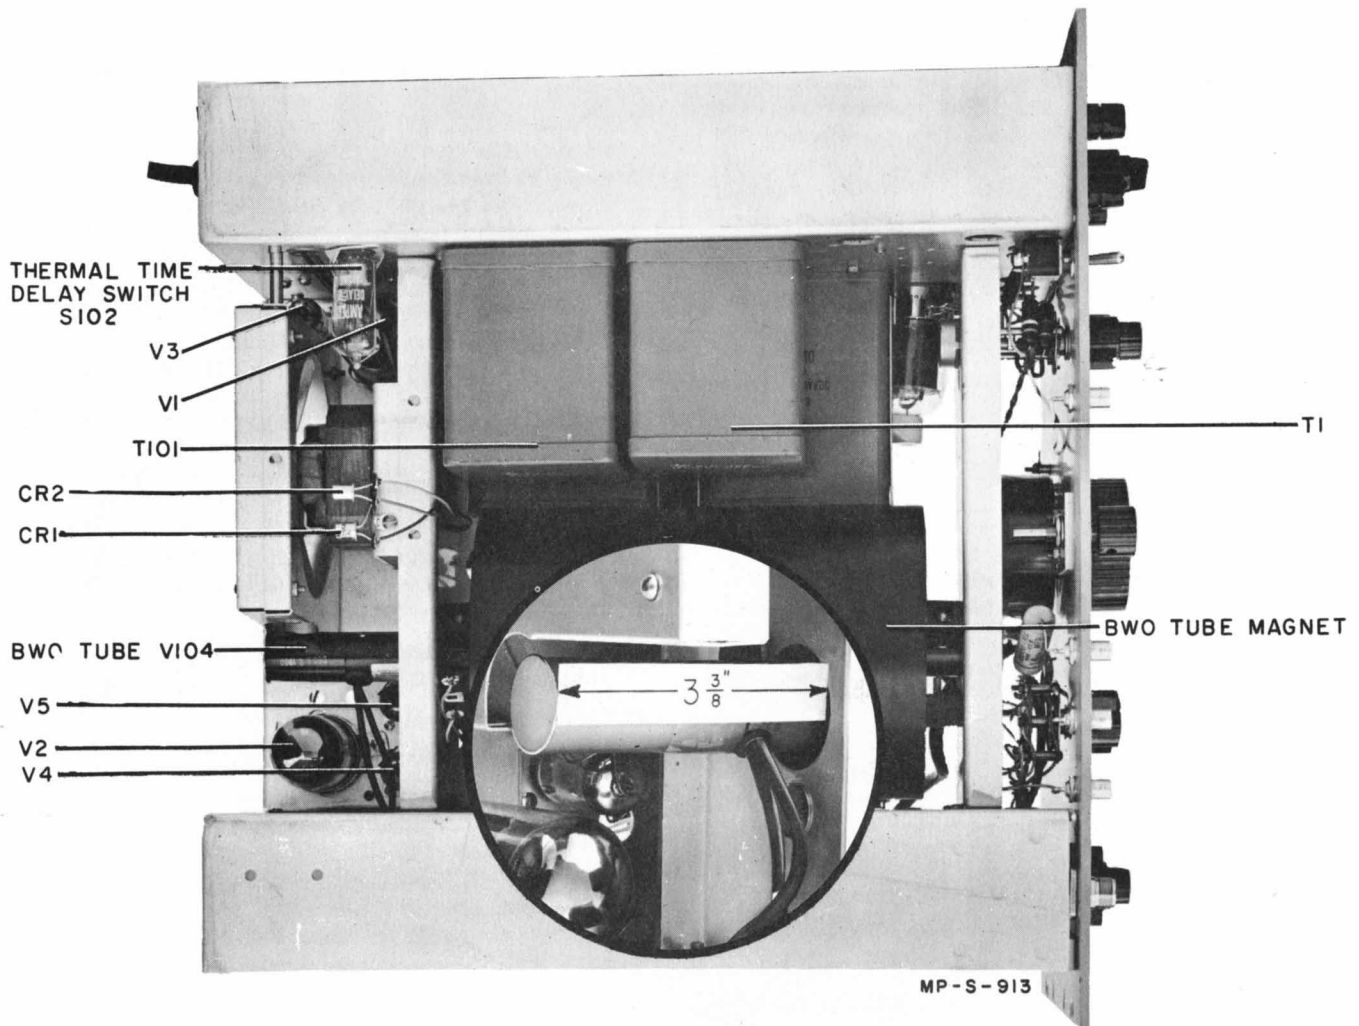

Figure 4-7. Model 683C Bottom View
2) The two tube should be installed so that the rear of the capsule is approximately 3-3/8 inches (see figure 4-7) from the bracket which supports the magnet. The output fitting should be pointing downward to the left at an angle of about 45° (see figure 4-9).